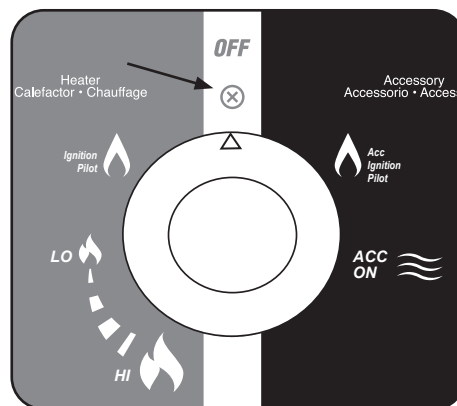

Figure 1
1. Make sure control knob is in "OFF" position. See Figure 1.
1. Make the control knob is in "OFF" position. See Figure 1 on previous page.
1. Make sure control knob is in "OFF" position. See Figure 1 on previous page.